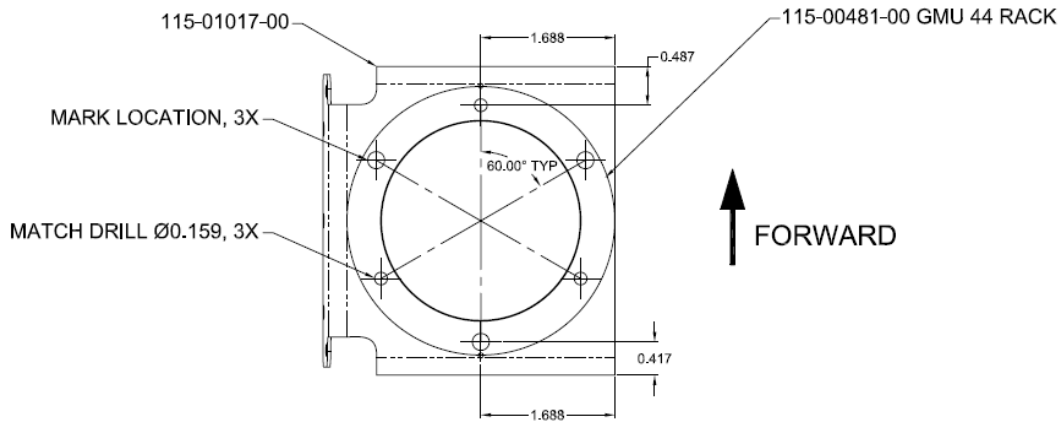

Figure B-8 GMU 22 Installation Rack (ES / ES-P)
1. Clamp the GMU 22 Installation Rack (Figure B-8) in place and match drill the GMU 22 Bracket through three countersunk mounting holes.